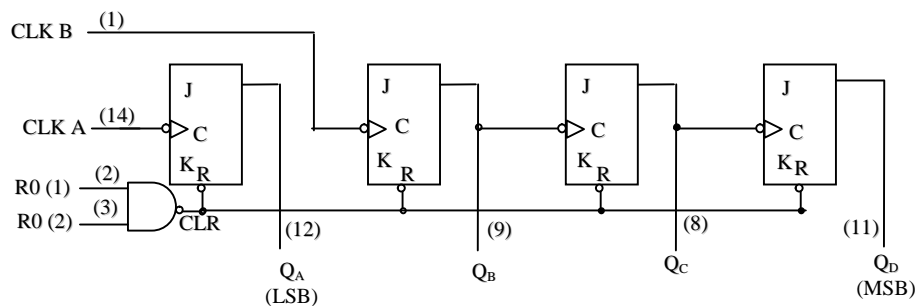

Fig 2 The 7493A four-bit binary counter logic diagram. (Pin numbers are in parentheses, and all J-K inputs are internally connected HIGH.)
The 7493A is presented as an example of a specific integrated circuit asynchronous counter. As the logic diagram in fig 2 shows, this device actually consists of a single flip-flop and a three – bit asynchronous counter. This arrangement is for flexibility. It can be used as a divide – by-2 device using only the single flip-flop, or it can be used as a modulus – 8 counter using only the three-bit counter position. This device also provides gated reset inputs, RO(1) and RO(2). When both of these inputs are HIGH, the counter is RESET to the 0000 state by $\overline{\text{CLR}}$.
Additionally, the 7493A can be used as a four-bit modules-16 counter (counts 0 through 15) by connecting Q_A output to the CLK B input as shown in fig 2.